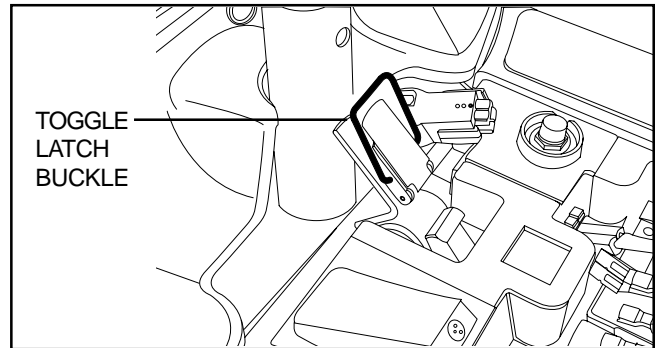

Figure 19. Toggle Latch (Unlatched)
2. Position the toggle latch buckle over the top of the toggle latch. See figure 19.